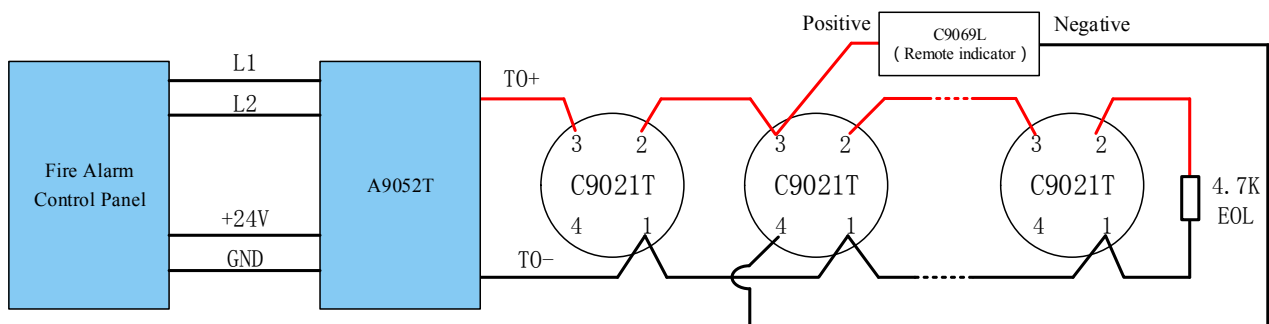

Fig.4
(3) Wiring mode 2: Fig.4 is a schematic diagram of the connection between multiple detectors with addressable fire alarm system via the zone module: